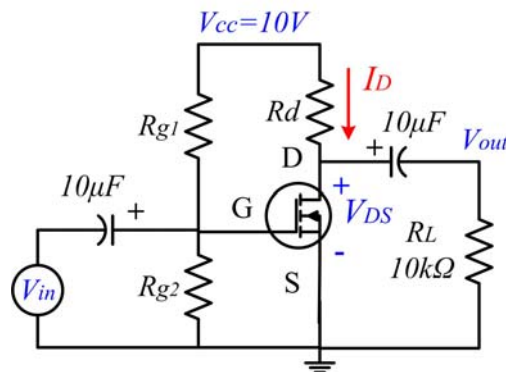

Figure 2: Common Source Amplifier
1. Build the circuit on breadboard as shown in Figure 2 using 2N7000. Choose R_{g1} and R_{g2} to setup I_D to around 5mA. Find out R_d to make $V_{DS} = V_{CC} / 2$.